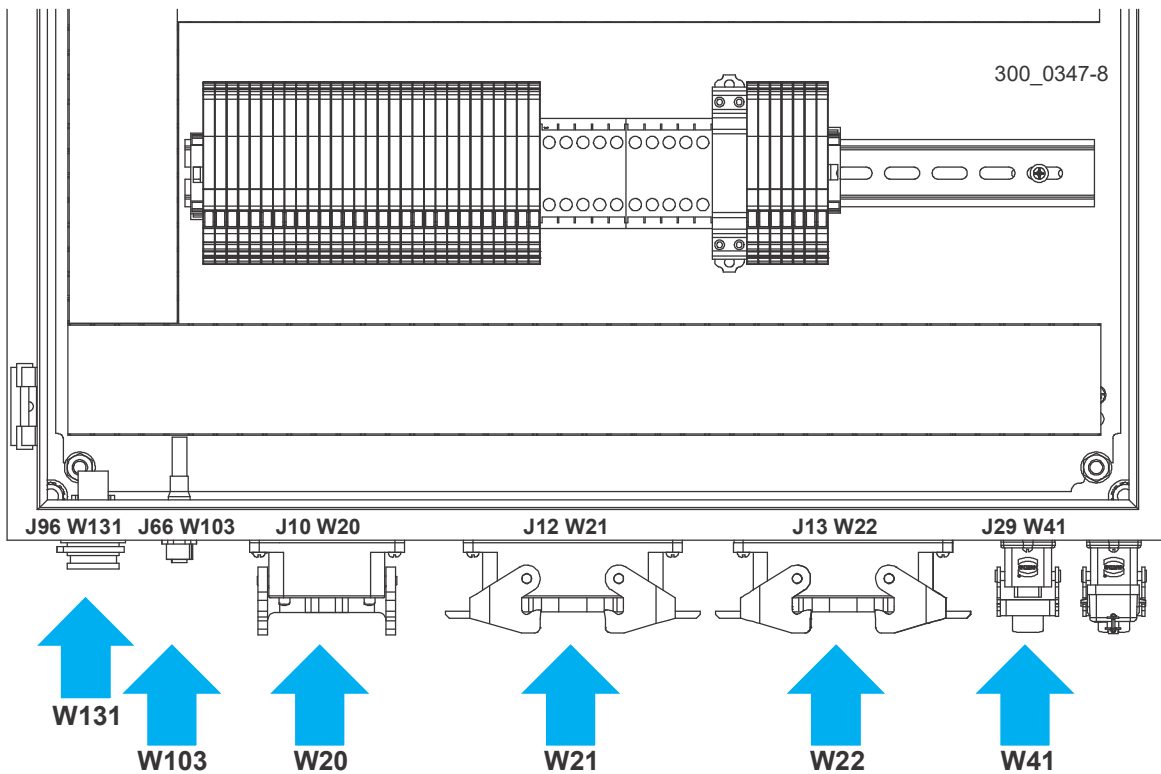

FIG. 3-19 LOW VOLTAGE BOX
- HMI Ethernet cable (W131) to the connector labeled J96 W131. See Fig. 3-19.